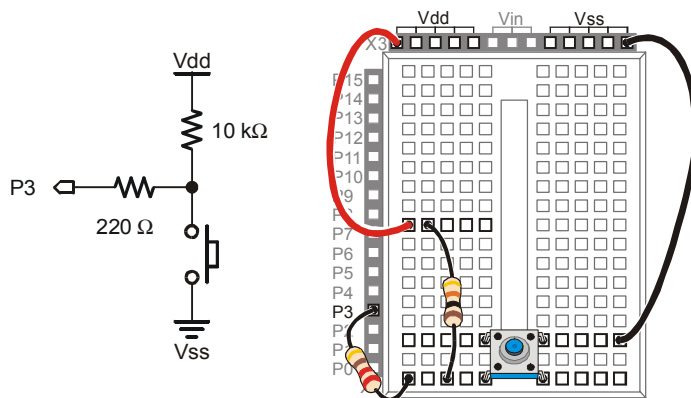

Figure 3-9
The circuit you just finished working with has a resistor connected to Vss. This resistor is called a pull-down resistor because it pulls the voltage at P3 down to Vss (0 volts) when the button is not pressed. Figure 3-9 shows a pushbutton circuit that uses a pull-up resistor. This resistor pulls the voltage up to Vdd (5 volts) when the button is not pressed. The rules are now reversed. When the button is not pressed, `IN3` stores the number 1, and when the button is pressed, `IN3` stores the number 0.
- ✓ Modify your circuit as shown in Figure 3-9.
Active-low vs. Active-high: This pushbutton Figure 3-9 is called active-low because it sends the BASIC Stamp a low signal (Vss) when the button is active (pressed). The pushbutton circuit in Figure 3-6 the main activity is active-high because it sends a high signal (Vdd) when the button is active (pressed).